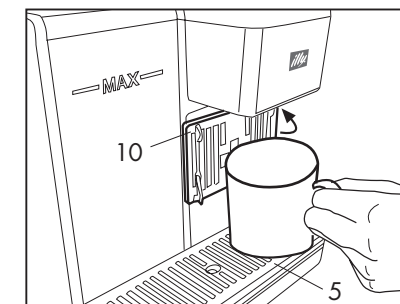

Fig. 6
- Check that there are no capsules in the machine and turn it on with the main switch. (2)
- Close the small cup support (10) and place a large cup on the grid (5). **(Fig. 6)**